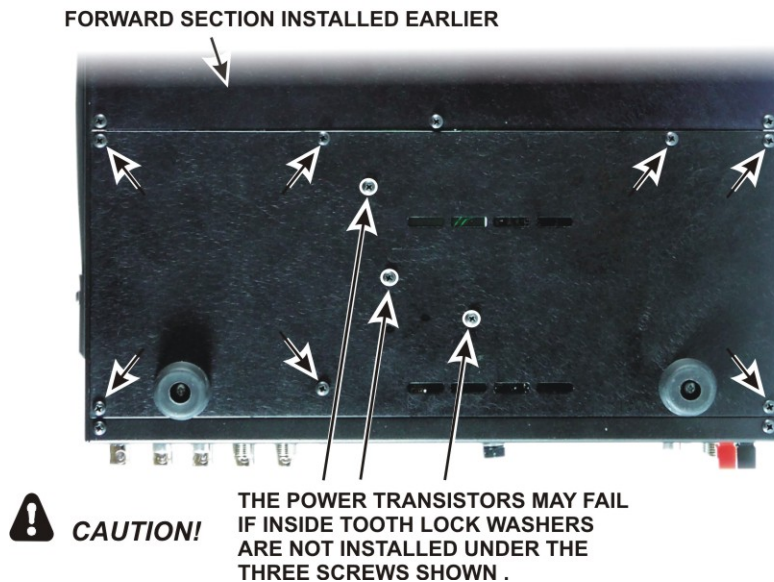

Figure 92. Checking Power Transistor Mounting Hardware.
- Install the rear bottom cover section as follows (see Figure 92):
- Inspect the bottom cover screws to ensure you have inside tooth lock washers under the three screws shown in Figure 92. **Be sure all three screws are tight.**